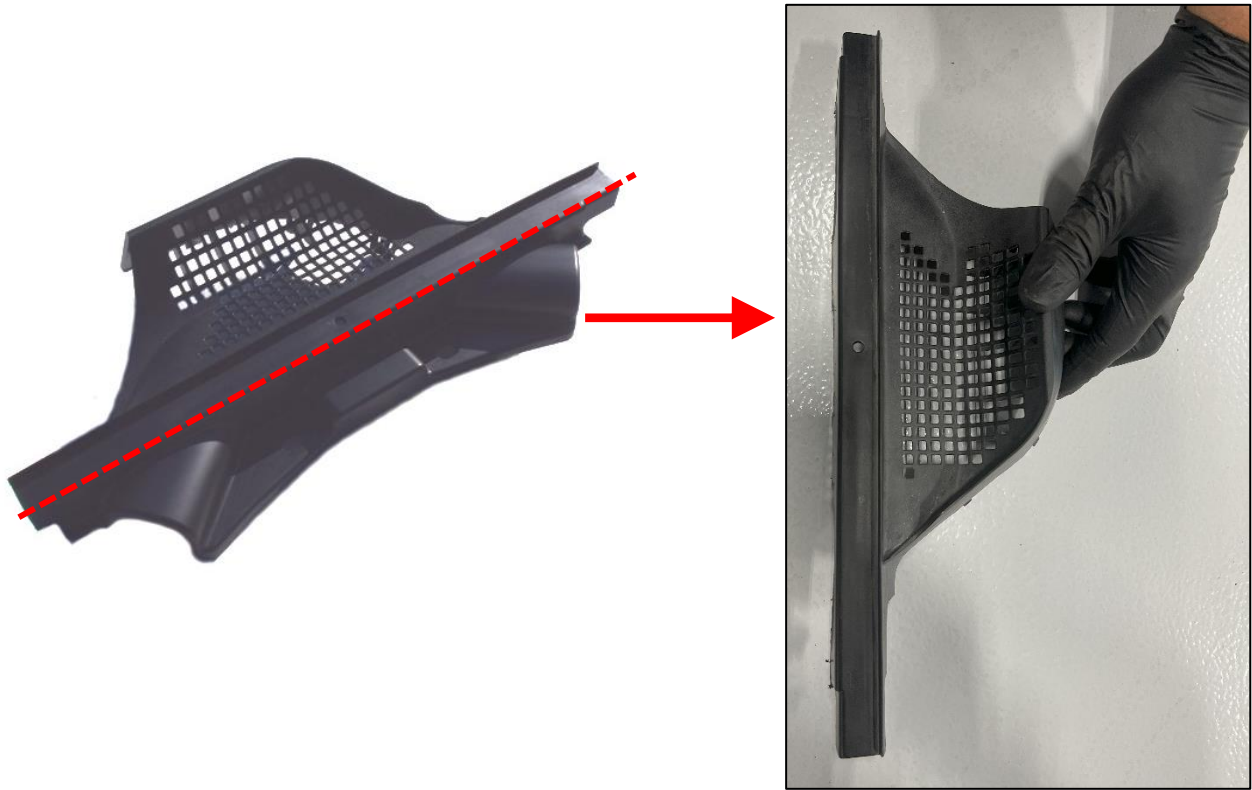

Figure 2
- i. Remove the (2) two bolts and (1) one nut securing the sides of the strut brace to the strut towers. Retain the hardware as it will be reused later.
4. **370Z Owners:** Using a body saw or snips, cut the protruding section on the front of the Center Cowl Section off. *Figure 2.*